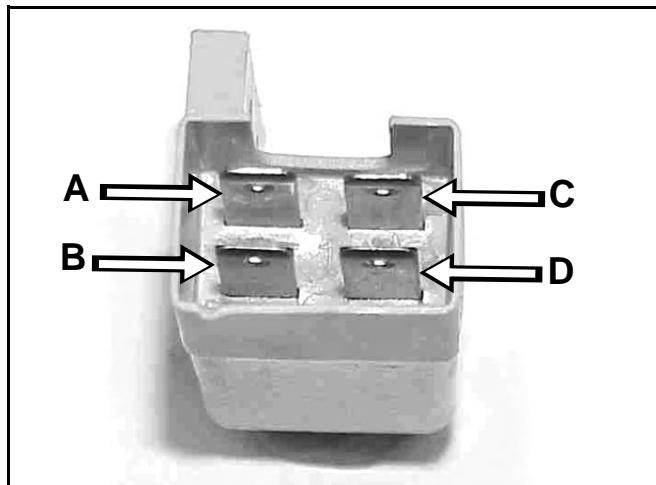

Figure 21
2. Using a multimeter, follow the procedures listed below (Figure 21):